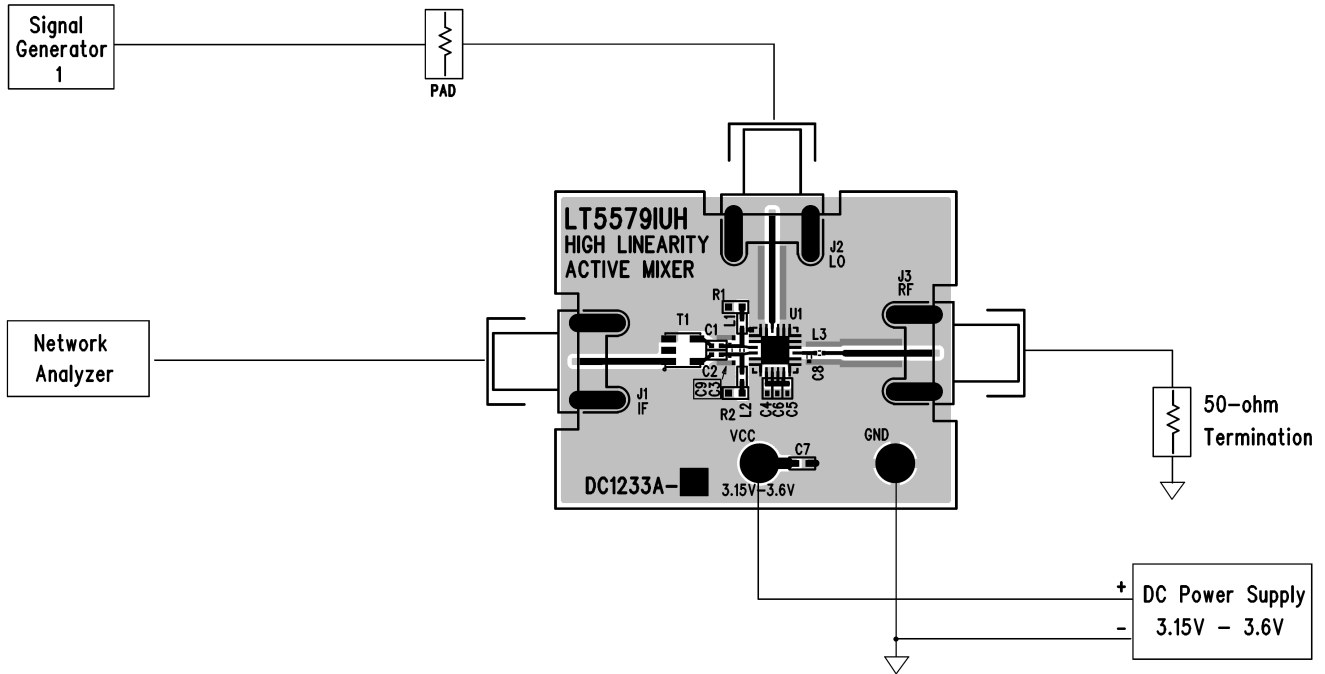

Figure 1. Proper Equipment Setup for Return Loss Measurements
Demonstration circuit 1233A-x is easy to set up to evaluate the performance of the LT5579. Refer to Figure 1 and Figure 2 for proper measurement equipment connections and follow the procedure below:
3. Connect all test equipment as shown in Figure 1.